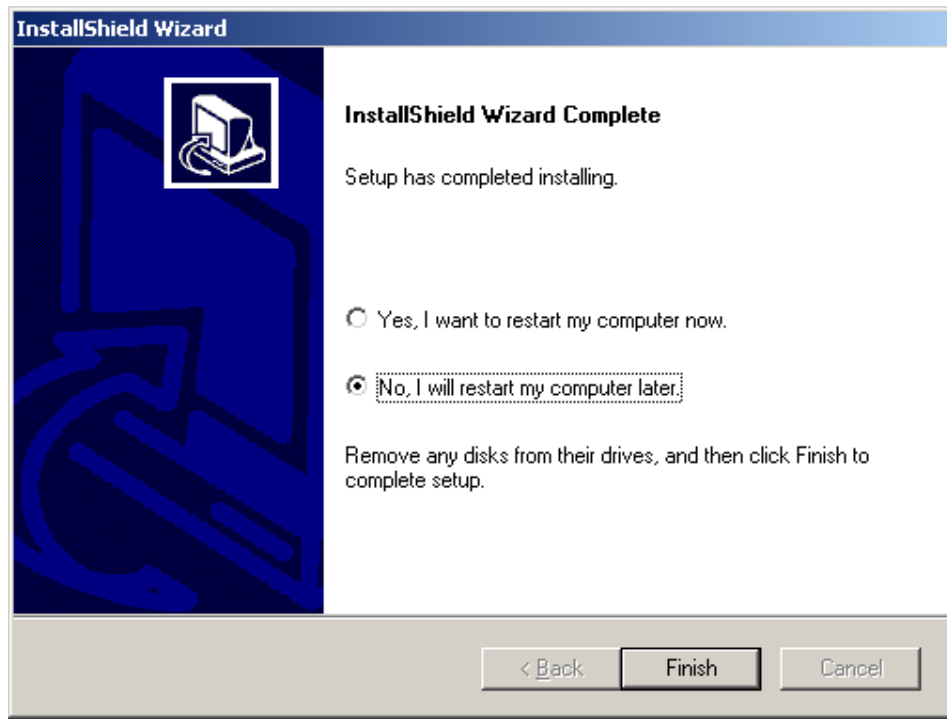

Figure 6-19: USB Driver Installation Complete
Step 5: After the driver installation process is complete, a confirmation screen appears (Figure 6-19).